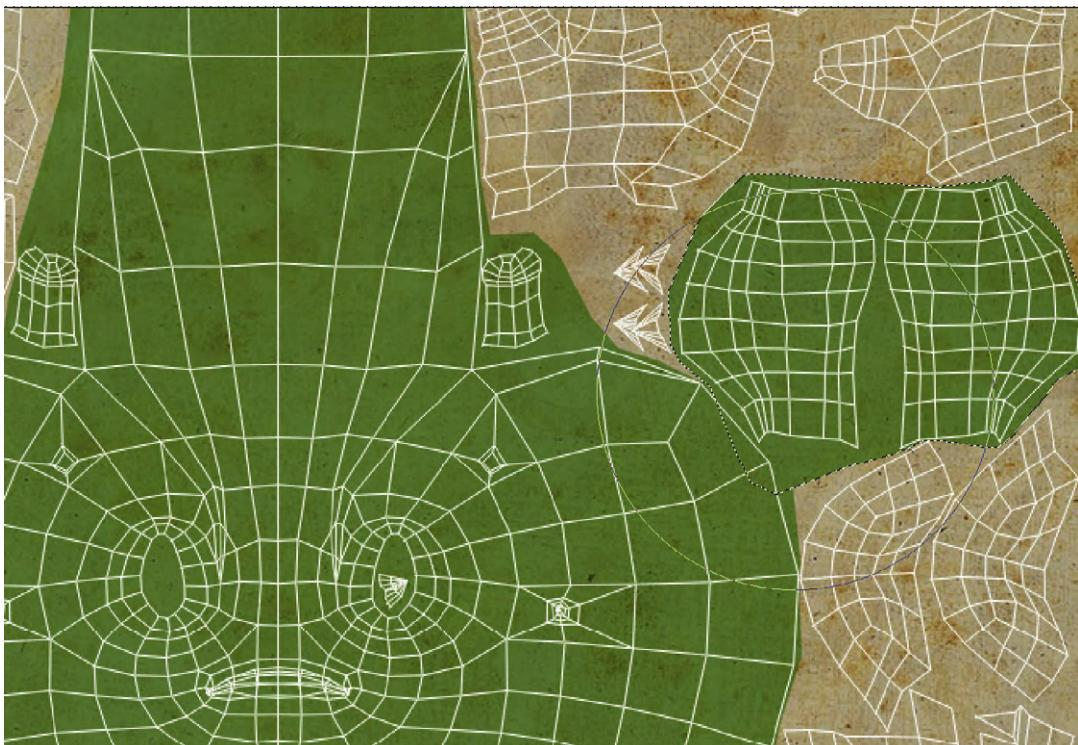

FIG 6.38 Painting back in skin areas by painting on the Layer Mask.
Step 7: Use the Layer Mask to return the green to other parts of the UVs where skin should be showing. A nice way to do this quickly but effectively is to use the Lasso to roughly select around an area of UV faces and then use the paint brush to paint the Layer Mask in white . . . the green skin will reappear (Fig. 6.38).